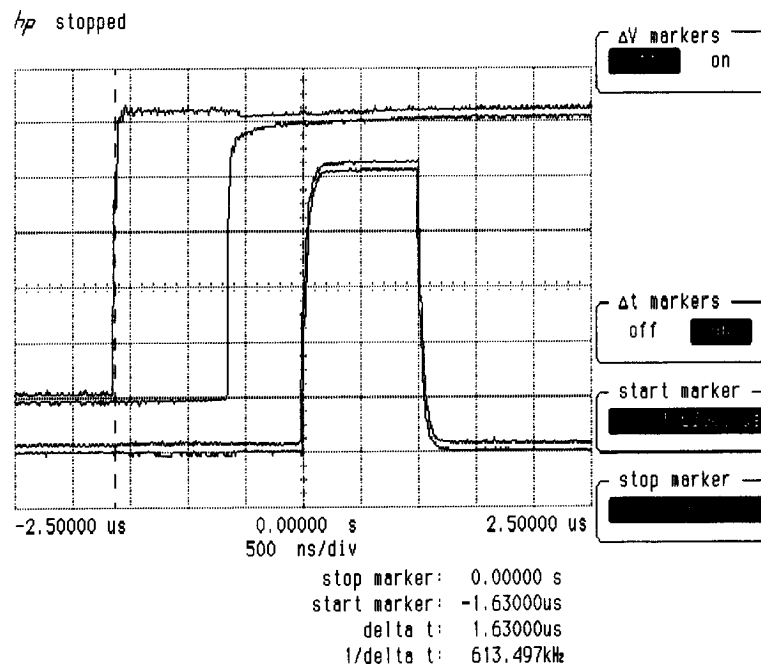

Figure 4-3. Oscilloscope Display of Minimum and Maximum Gate Delay Values
7. On the oscilloscope, press **start marker**. Use the knob to position the start marker on the upper trace on the right side of the oscilloscope display. See Figure 4-3.